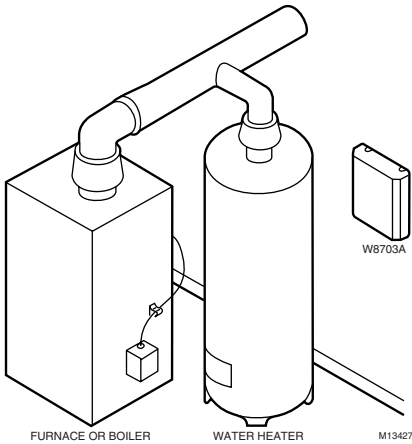

Fig. 1. Mounting W8703A on wall or duct.
Locate the W8703A in the equipment room near the HVAC equipment. See Fig 1.
2. Locate the two mounting holes. See Fig 1.